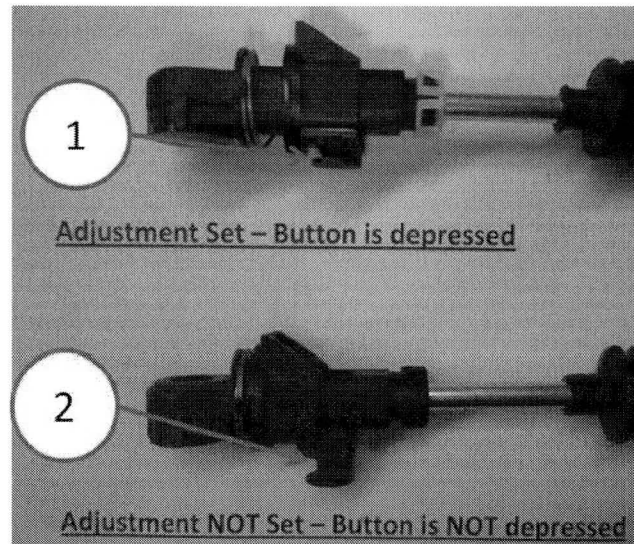

Fig. 9 Shift cable
21. Just inboard of the battery and down to the top of the transmission, look for the Select Cable adjustment fitting as shown in (Fig. 9).